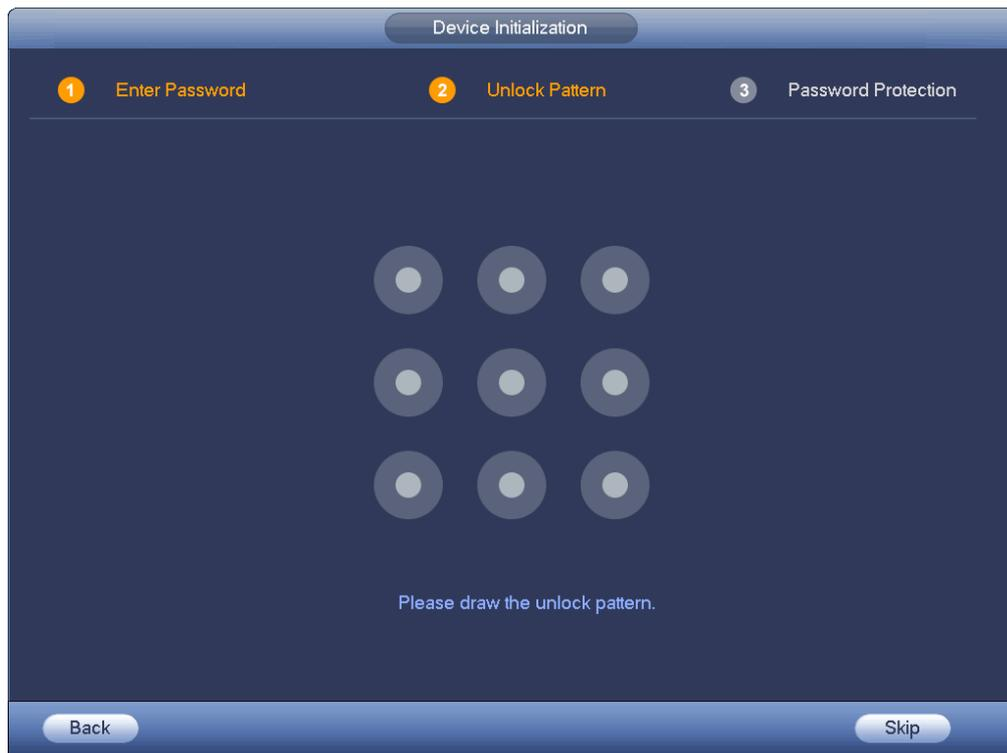

Figure 2-2
Step 5 Click Next, device goes to the following interface. See Figure 2-2.